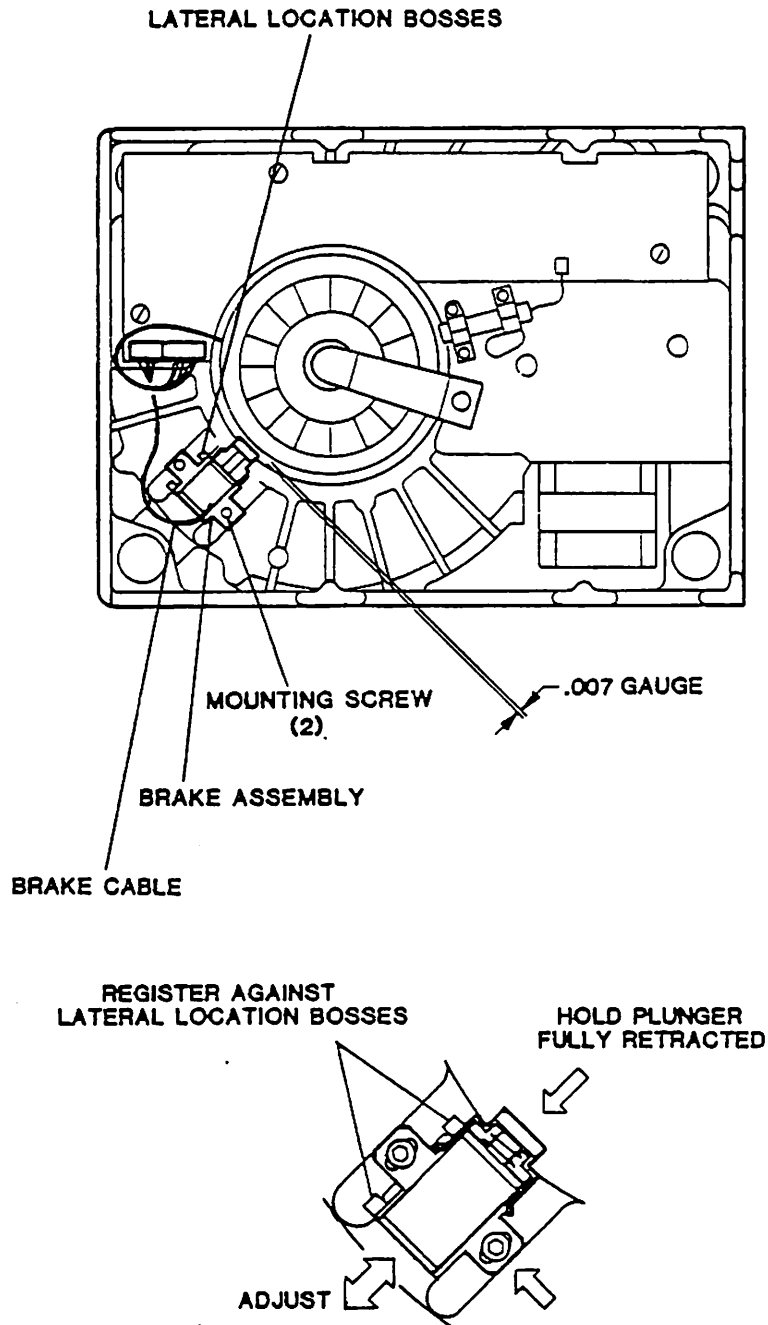

Figure 6-4. Brake Assembly Removal and Replacement
6.3.4 Brake Assembly Removal and Replacement (Figure 6-4)
With mounting screws loosened, grip brake assembly with thumb, fore and middle fingers as shown in Figure 6-4. Squeeze assembly together and slide forward and against lateral location bosses. At the same time place .007 gauge between spindle motor and brake. Tighten and torque brake assembly mounting screws to eight inch pounds. Following torqueing of screws, check to ensure that the brake pad is spaced .007 from the braking surface when the plunger is fully retracted $.007 \pm .003$.